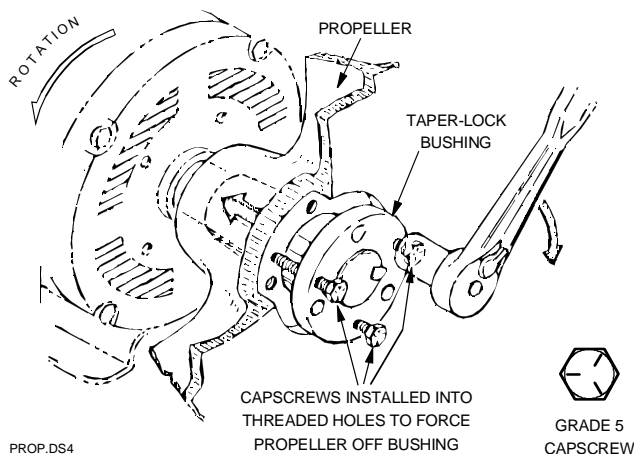

Fig. 7-6 Capscrew arrangement for disassembly
**THREADED BUSHING HOLES** - The threaded holes within the bushing are provided for disassembly purposes only. See Fig. 7-6. Do not attempt to use these holes for reassembly, as they will not allow the parts to become locked onto the shaft, thereby causing a hazardous operating condition.
4. Block propeller to prevent it from turning, and gradually turn in the capscrews (up to 1/4 turn at a time), as shown in Fig. 7-6, until the propeller breaks loose from the bushing and motor shaft. Carefully remove bushing and propeller. With the propeller free from the bushing, a wheel puller can be used to pull the bushing off of motor shaft, if required. Reattach bushing onto propeller to prevent the loss of parts and also to maintain the original alignment of bushing to propeller. Inspect propeller and bushing at this time, looking for any cracks, thread or bolt damage, warpage, etc. Consult your dealer or the factory for any questions concerning damage.